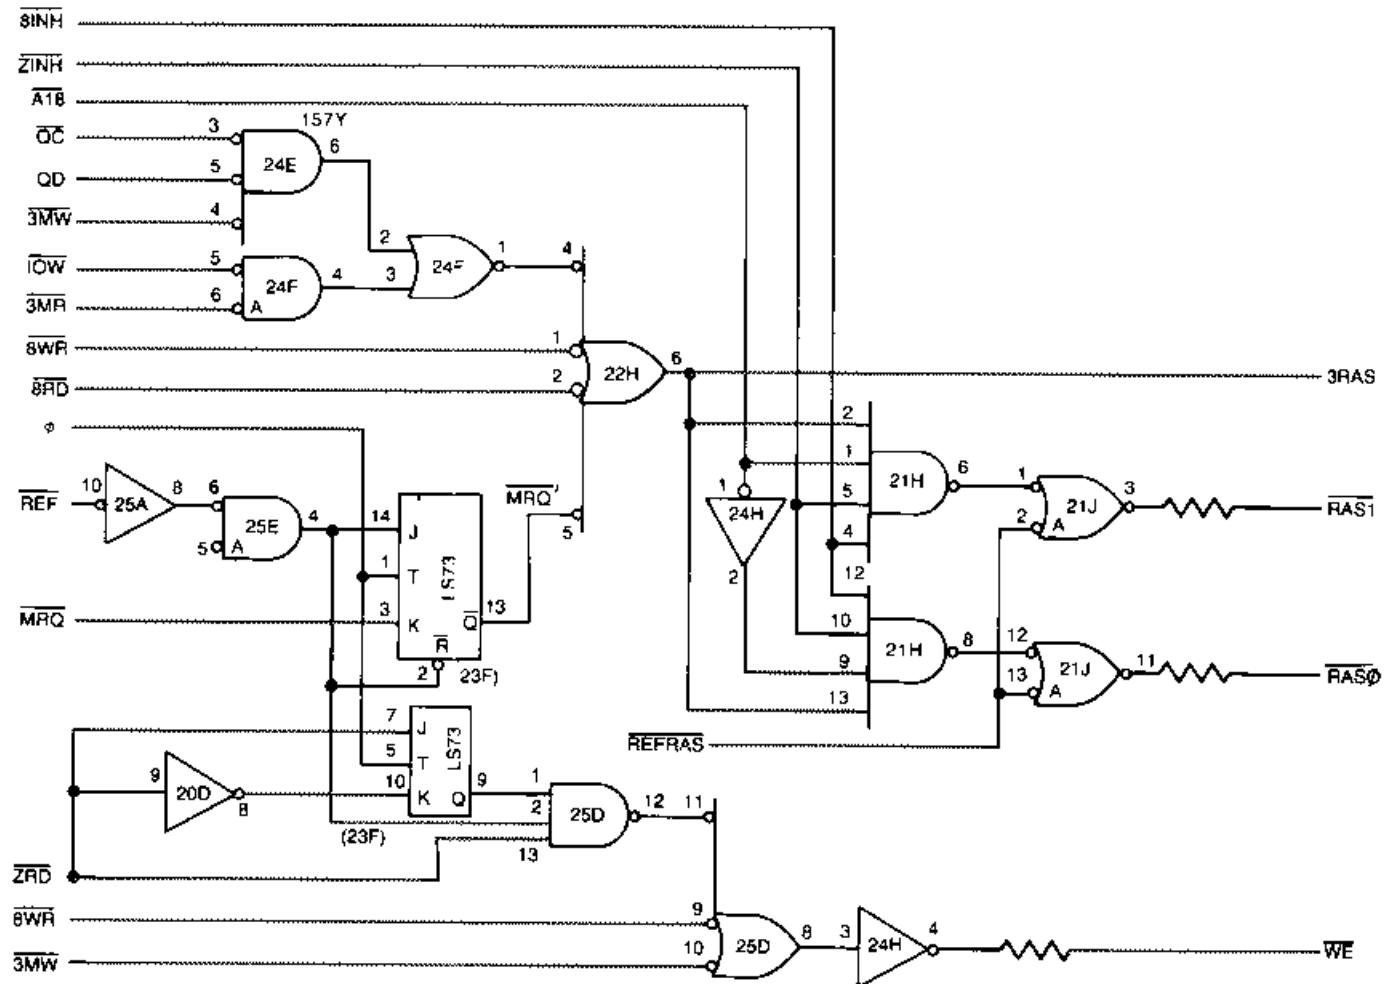

FIGURE 2-39. DRAM RAS AND WRITE ENABLE GENERATOR CIRCUIT
2.3.2.9 DRAM RAS and Write Enable Generator Circuit (Figures 2-39 and 2-40)